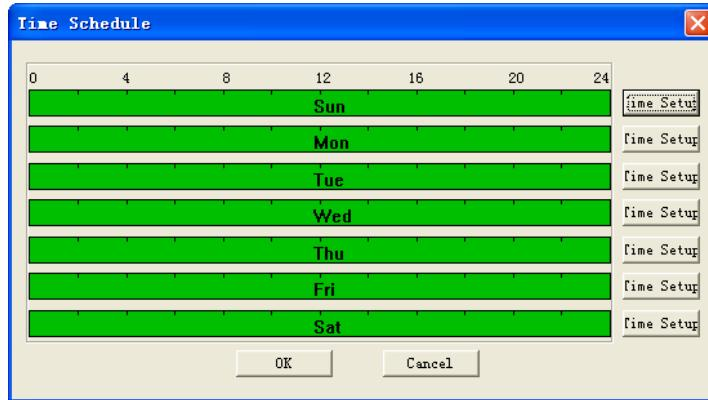
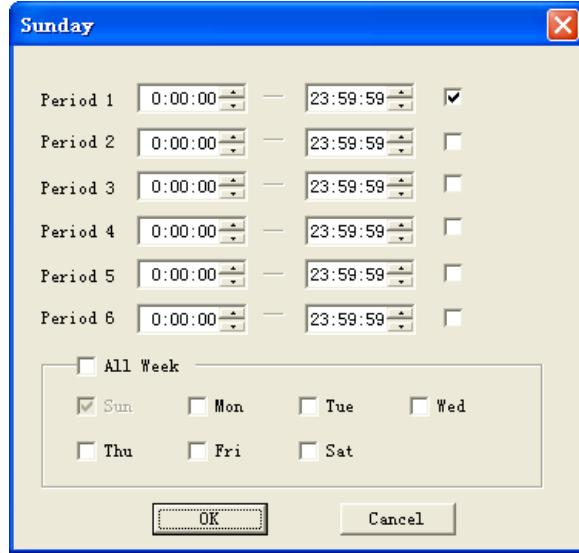

Figure 7-39
Figure 7-40
- ✧ Period: This is where you can set a secondary record period. Note: this will not take precedence over the original schedule. Click set, you will see an interface as shown in Figure 7-39. In Figure 7-39, click time set, you can see an interface as shown as in Figure 7-40. Here you can set time period.